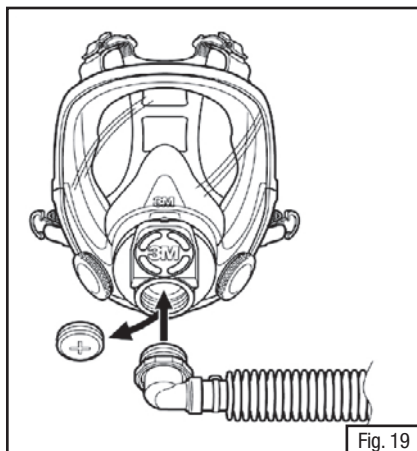

Fig. 19
3. Screw the breathing tube inlet into the PAPR outlet (Fig. 19). IN ORDER TO ENSURE THAT THE BREATHING TUBE IS SECURILY ATTACHED, DO NOT TRY TO CONNECT BREATHING TUBE WHILE FACE PIECE IS BEING WORN.